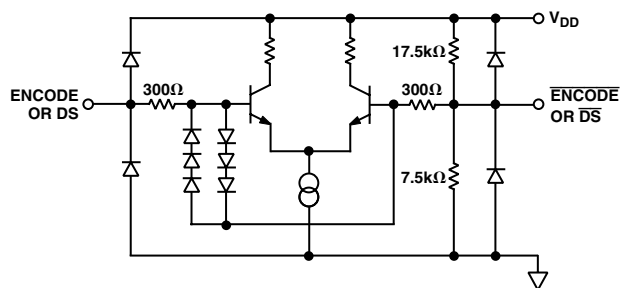

Figure 5. Equivalent ENCODE and Data Select Input Circuit
¹Gain error and gain temperature coefficient are based on the ADC only (with a fixed +2.5 V external reference).²3 dB bandwidth with full-power input signal.³t_V and t_{PD} are measured from the threshold crossing of the ENCODE input to valid TTL levels of the digital outputs. The output ac load during test is 5 pF (Refer to equivalent circuits Figures 5 and 6).⁴I_{IH} and I_{IL} are valid for differential input voltages of less than 1.5 V. At higher differential voltages, the input current will increase to a maximum of 1.5 mA.⁵Power dissipation is measured under the following conditions: analog input is -1 dBFS at 19.7 MHz.⁶Typical thermal impedance for the ST-44 (LQFP) 44-lead package (in still air): $\theta_{JC} = 20^{\circ}\text{C/W}$, $\theta_{CA} = 35^{\circ}\text{C/W}$, $\theta_{JA} = 55^{\circ}\text{C/W}$.⁷A change in input offset voltage with respect to a change in V_{DD}.⁸SNR/harmonics based on an analog input voltage of -1.0 dBFS referenced to a 1.024 V full-scale input range.
ENCODE and Data Select (DS) can be driven differentially or single-ended. For single-ended operation, the complement inputs ($\overline{\text{ENCODE}}$, $\overline{\text{DS}}$) are internally biased to $V_{\text{DD}}/3$ (~ 1.5 V) by a high impedance on-chip resistor divider (Figure 5), but they may be externally driven to establish an alternate threshold if desired. A $0.1 \mu\text{F}$ decoupling capacitor to ground is sufficient to maintain a threshold appropriate for TTL or CMOS logic.
Note the 6-diode clock input protection circuitry in Figure 5. This limits the differential input voltage to $\sim \pm 2.1$ V. When the diodes turn on, current is limited by the $300\ \Omega$ series resistor. Exceeding 2.1 V across the differential inputs will have no impact on the performance of the converter, but be aware of the clock signal distortion that may be produced by the nonlinear impedance at the converter.